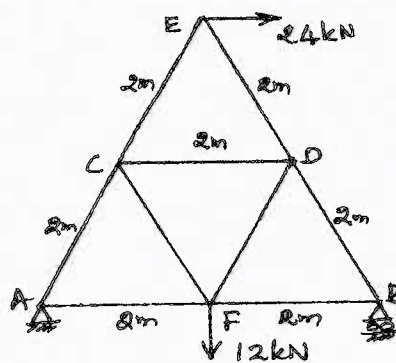

Fig.Q2(b)
- b. Analyze the loaded truss shown in Fig.Q2(b) by method of joints and tabulate the results neatly. (12 Marks)